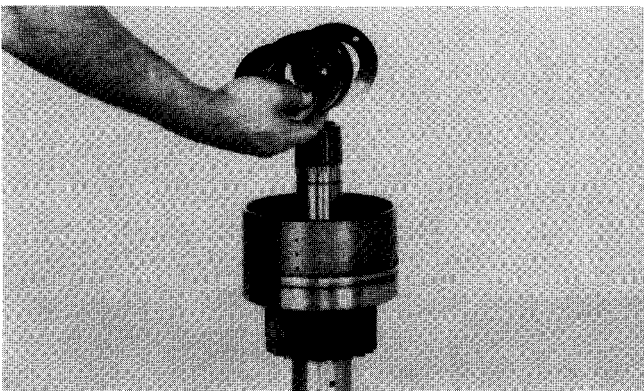

Figure 83
See Note in Figure 83
See NOTE in figure 83. Install disc springs. First spring with large diameter toward spacer. Alternate (5) five washers. **See page 59, Figure C.**